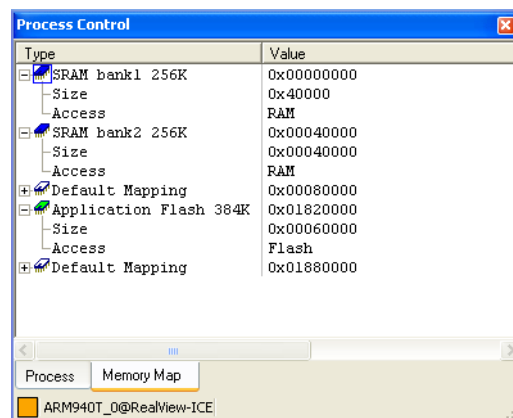

Figure 6-5 Viewing the new memory map
3. Expand the memory map areas you added in *Describing the memory map* on page 6-40. Figure 6-5 on page 6-43 shows an example: